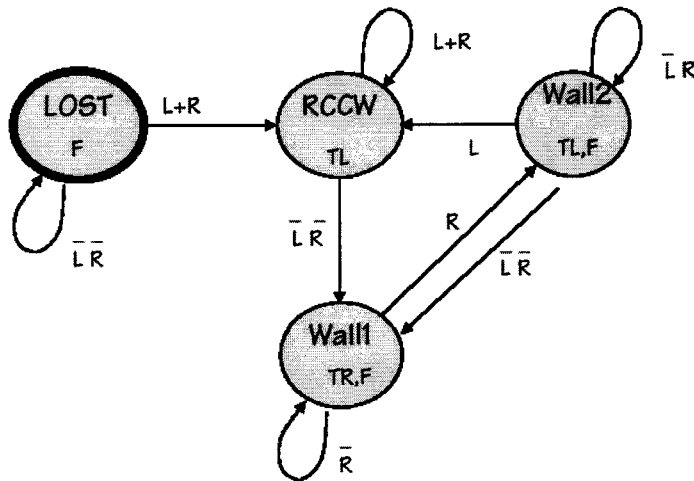

**Fig. 3**
4. Assume a library has modules with delay parameters as shown in Table 1. Design a two-stage loop pipeline sequencing methods as shown in Fig 3.